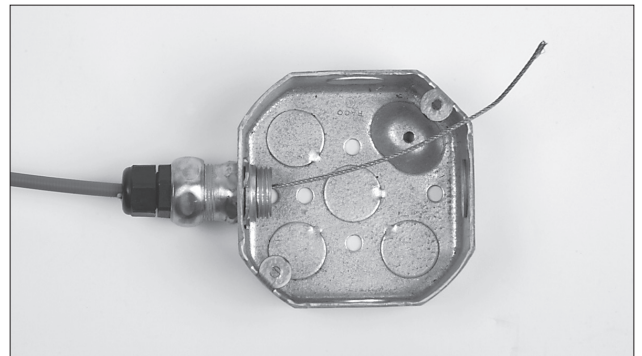

FIGURE 5-70
1. Connect the flexible conduit and wire rope to the electrical box as described in *Connecting the Flexible Conduit to the AUTOMAN Release, Electrical Box, or Mechanical Gas Valve*. See Figure 5-70.